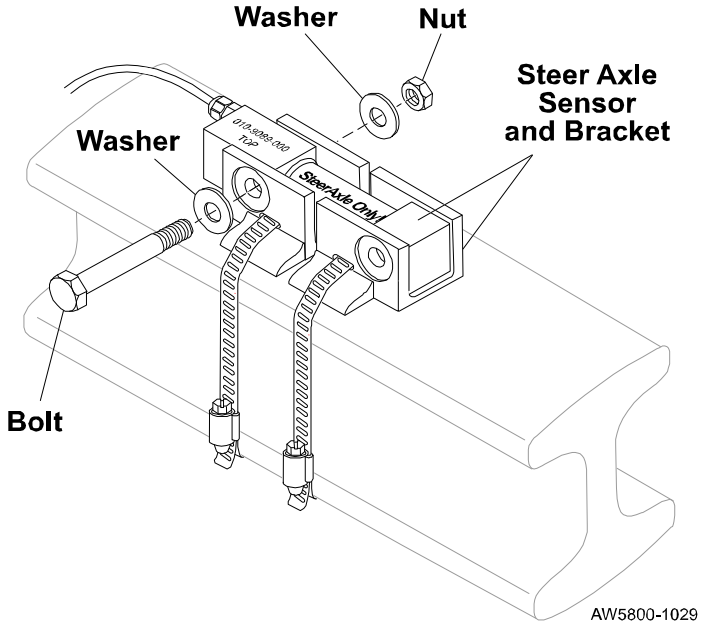

Figure 12. Assembling the Sensor and the Sensor Bracket
4. Insert one bolt and washer through the bracket hole on the sensor end with the word “TOP” on it. See Figure 12.